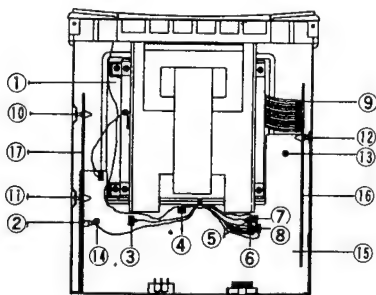

Fig. 3
2. Remove connectors ① to ⑨, and then remove pcb supports ⑩ to ⑫ in Fig. 3
3. Remove screws ⑬ to ⑮, and then remove the pcb-1 ⑮, pcb-2 ⑯ and pcb-3 ⑰